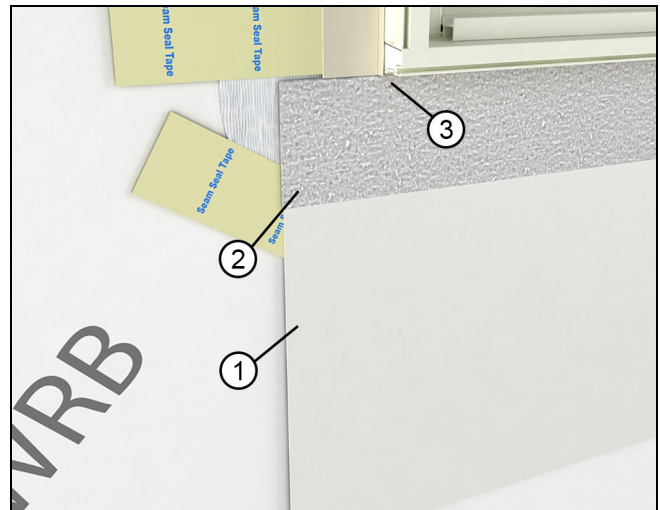

Figure 10
4. **Optional Skirt:** Install an optional "skirt" in applications with exposure to wind driven rain/climate. Use flashing material or a 12" (305) strip of WRB and attach to the sill of the window with seam seal tape or flashing tape. See Figure 10.